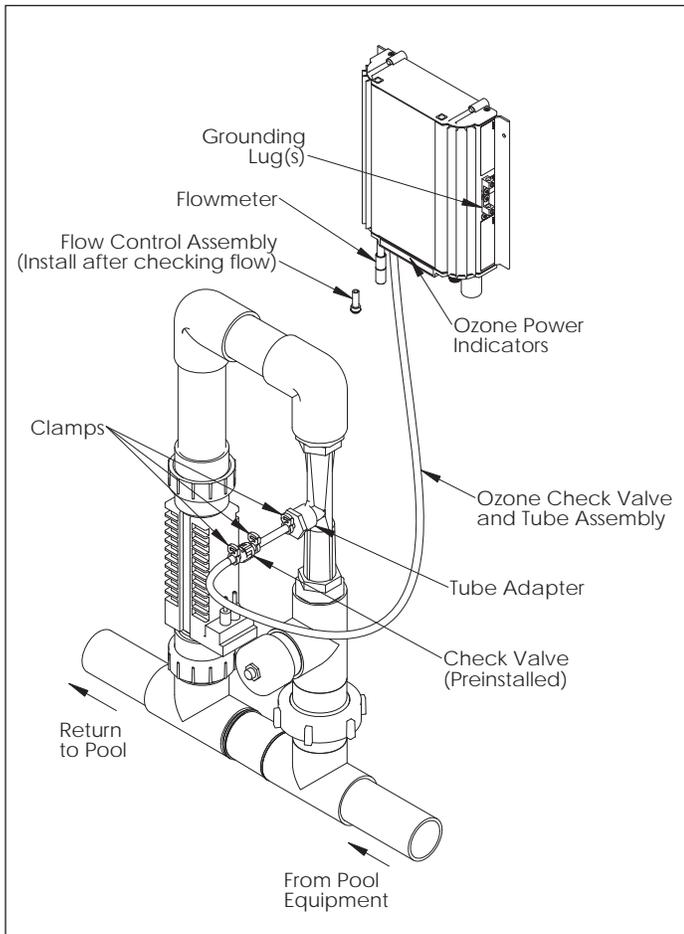

Figure 2 Installation Diagram
**2D-5. Ozone Gas Line - refer to Figure 2.**